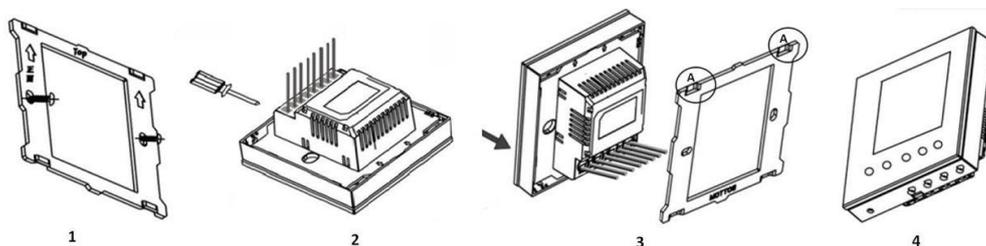

Figure 32: MCO fan coil thermostat installation
**Step 1:** Remove the steel frame from the device and secure it onto the junction box with two screws (Figure 32).